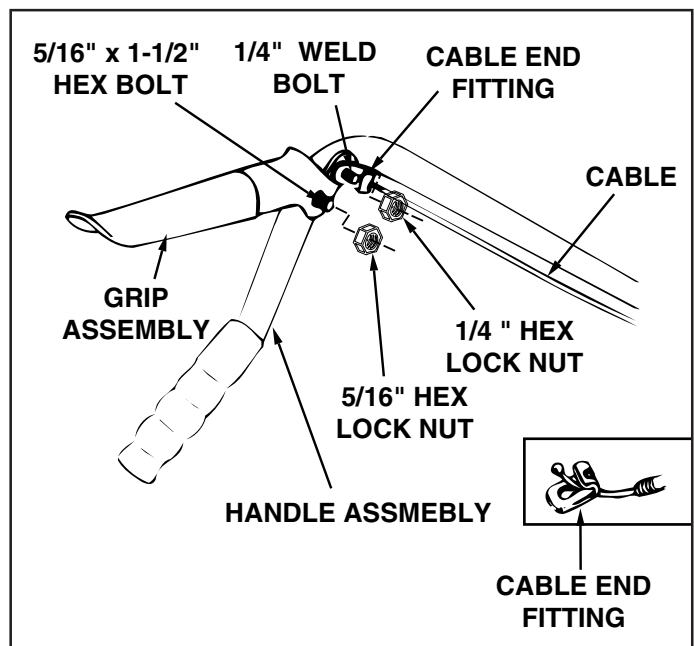

FIGURE 19 (Right Hand Side View)
- Assemble grip assembly to handle assembly using one 5/16" x 1-1/2" hex bolt and one 5/16" hex lock nut. **Do not overtighten** lock nut; grip assembly must pivot freely. See figure 19.
- Assemble ball end of cable to a cable end fitting as was done previously to other end of cable. Secure cable end fitting to handle assembly with a 1/4" hex lock nut. **Do not overtighten** lock nut; cable fitting must pivot freely. See figure 19.